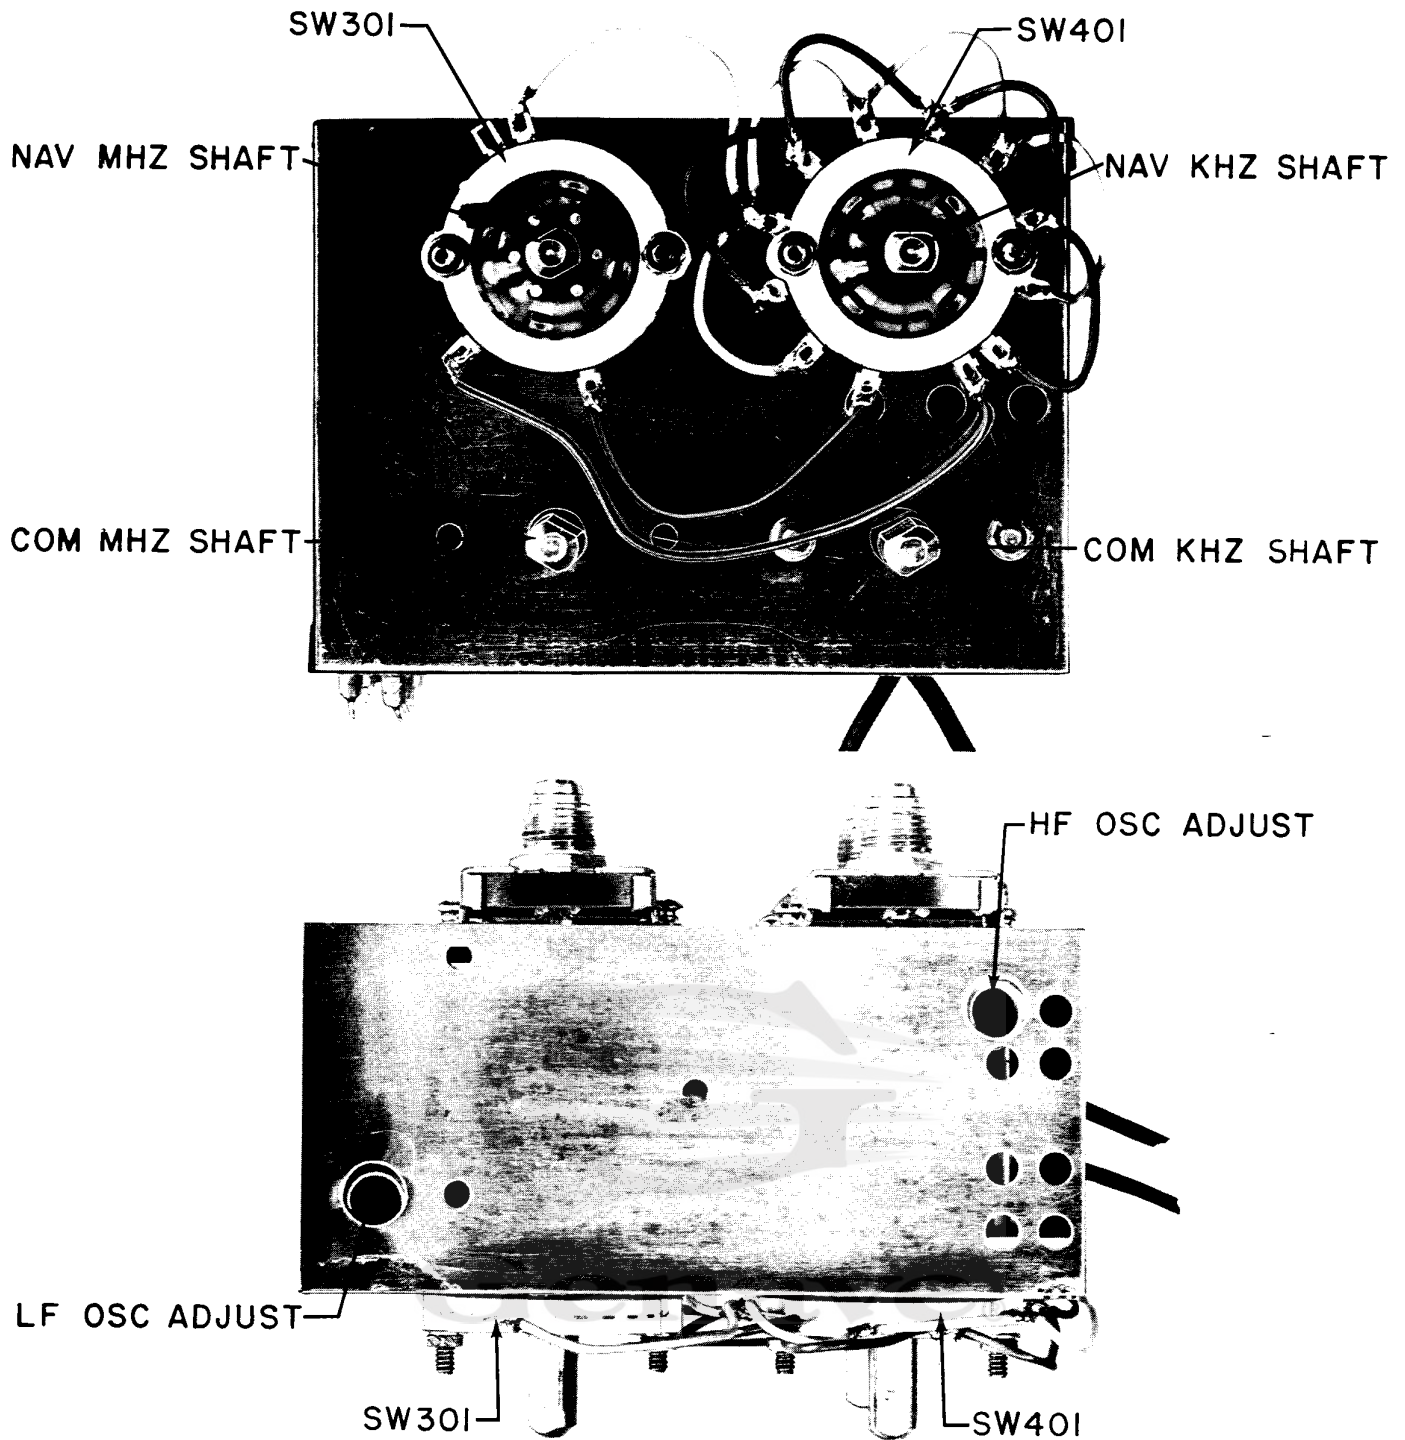

Figure 4-4-3
4. Adjust the high frequency oscillator slug (see figure 4-4-3) counterclockwise until the oscillator stops. Slowly turn the slug clockwise until the oscillator starts. Note the exact frequency at which the oscillator starts.
4. Adjust the low frequency oscillator slug (see figure 4-4-3) counterclockwise until the oscillator stops. Slowly turn the slug clockwise until the oscillator starts. Note the exact frequency at which the oscillator starts.